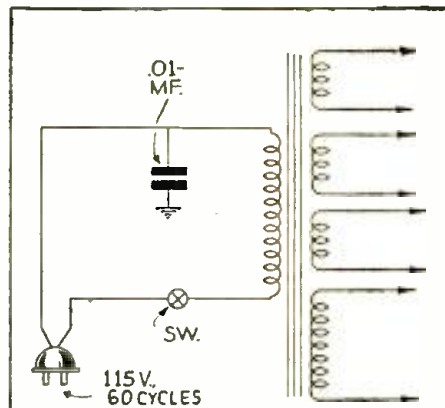

Fig. 3. Line condenser to stop circuit oscillation.
See Fig. 3. All American commercial broadcast stations may be considered as standards of frequency because they must maintain their carrier frequency within plus or minus 50 cycles of their assigned frequency, and these broadcast stations, therefore, may be used to calibrate test oscillators by the zero-beat method.
Fig. 3. Zero-beat method of oscillator calibration. (1) Couple oscillator output loosely to antenna lead. Tune receiver to a broadcast station of known frequency. (2) Tune oscillator to approximate broadcast signal frequency, and adjust oscillator carefully for zero-difference frequency (zero beat). (3) Read oscillator dial setting and note correction, i.e., mark reading, 5 kc. high or 8 kc. low, on correction chart.